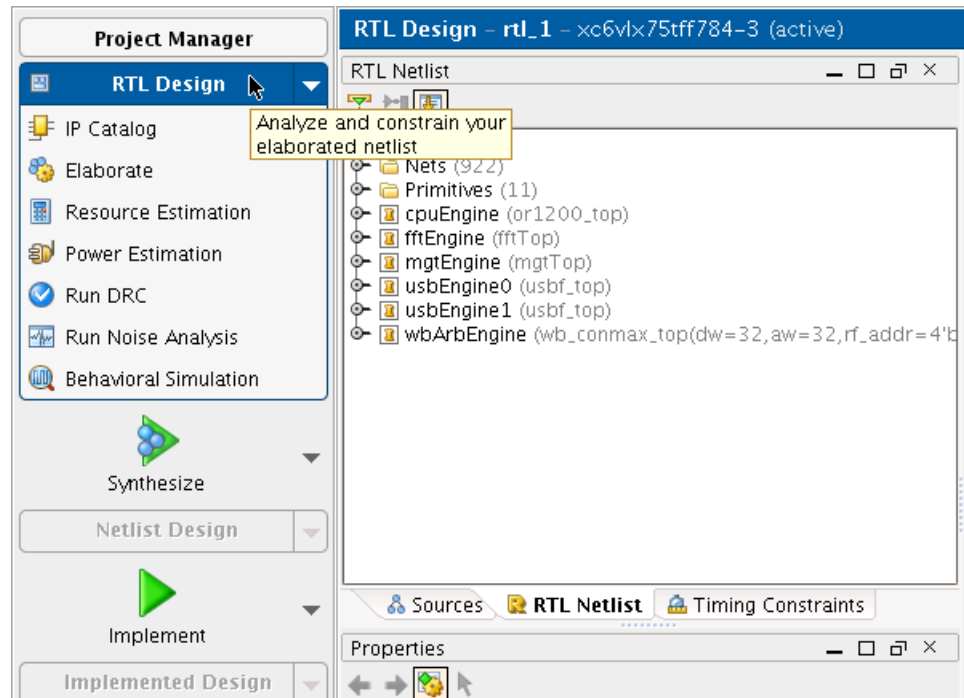

Figure 1-1: Opening the RTL Design View
1. Select **Flow > RTL Design**, or click **RTL Design** in the Flow Navigator along the left hand side of the PlanAhead software GUI. See Figure 1-1.